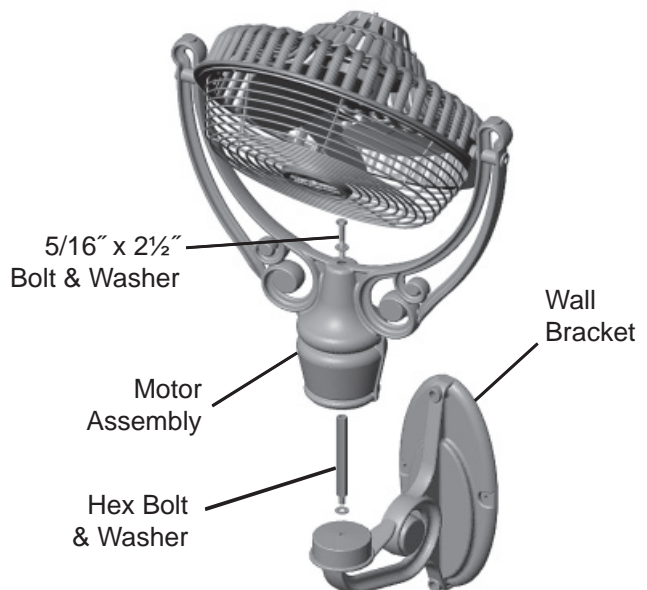

Fig. 24
2. Secure Hex Bolt and washer to the Wall Bracket (Fig 24).